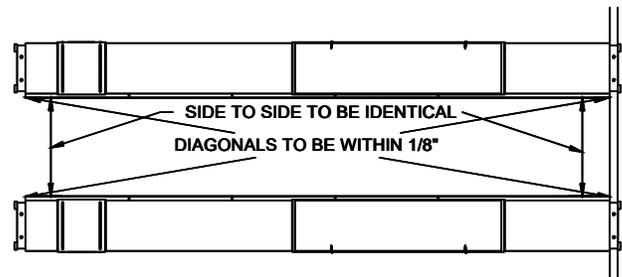

Fig 14 – Final Runway Positioning
- 17) Check the layout of the lift in the bay. **(This is the last opportunity to reposition the lift. Take a moment to determine the position of the front column anchors to ensure proper clearance from any crack, edge, or expansion joint. Ensure proper clearance for the lift operator at the Power Unit Controls.)** Adjust the position of the runways so the distance from power side jack rail to idler side jack rail is the same at the front and rear and the diagonal measurements from the front tip of one rail to the rear tip of the opposite rail are within 1/4", Fig 14.
- 48) Recheck the four runway measurements from **Fig 14**.
- 50) After properly shimming column plumb, loosen anchors and add one shim to both of the two inside anchors to lean the column outward slightly. Make sure lower Slide Blocks are in contact with column and torque all anchor bolts to 150 foot-pounds, **Fig 14**.